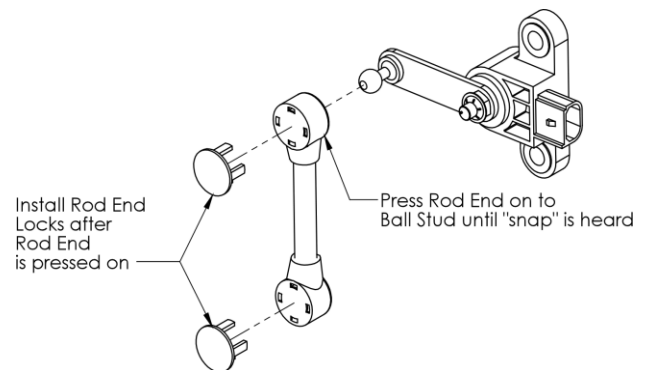

Figure 16. Height Sensor Plastic Linkage End Installation
1. Install Height Sensors as shown above. Refer to **Figure 16 or Figure 17** for detail of linkage.